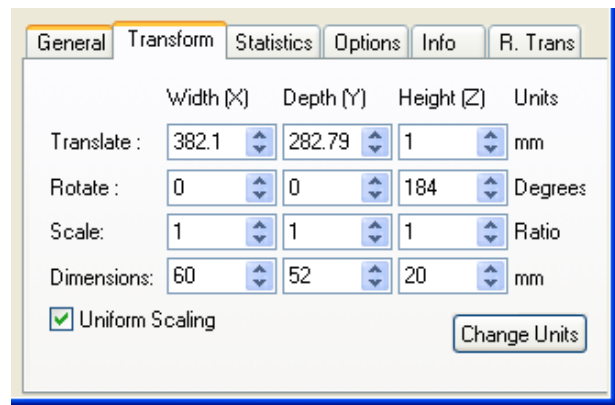
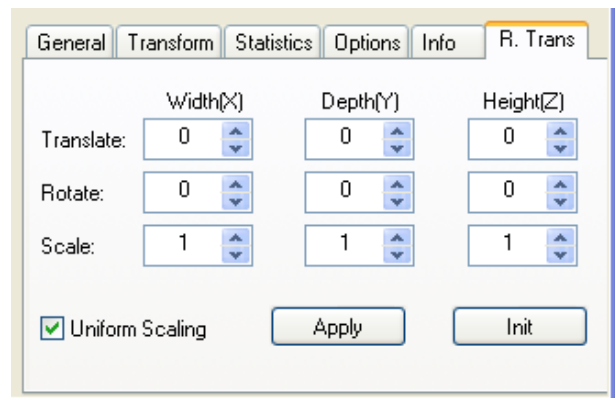

Figure 5-16: Object properties dialog box, *Transform* tab
Figure 5-17: Object properties dialog box, *R. Trans* tab
2. Display the *Transform* tab or the *R. Trans.* tab of the object properties dialog box (see figure 5-16 on page 5-13 and figure 5-17 on page 5-13).